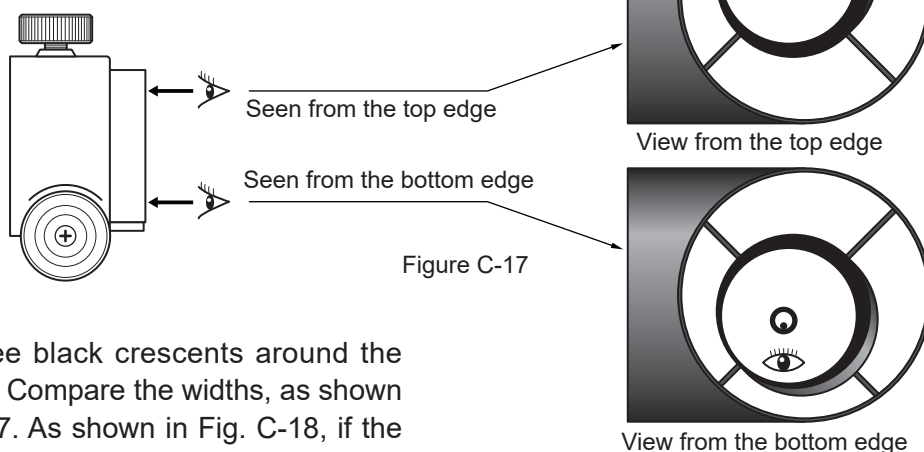
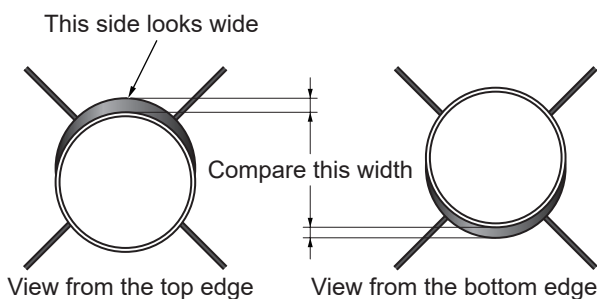
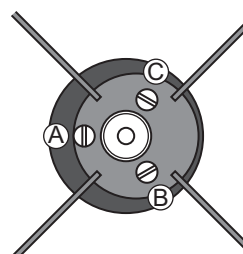

Figure C-17
Figure C-18
Figure C-20
You will see black crescents around the secondary. Compare the widths, as shown in Fig. C-17. As shown in Fig. C-18, if the upper part appears wider, the secondary should be lowered. If the upper and lower parts appear to be the same width, there is no need to adjust the spider.
2. In a case like Fig. C-18, loosen the adjustment screw C as in Fig. C-20 and the width of the secondary holder as seen from above and below becomes uniform.